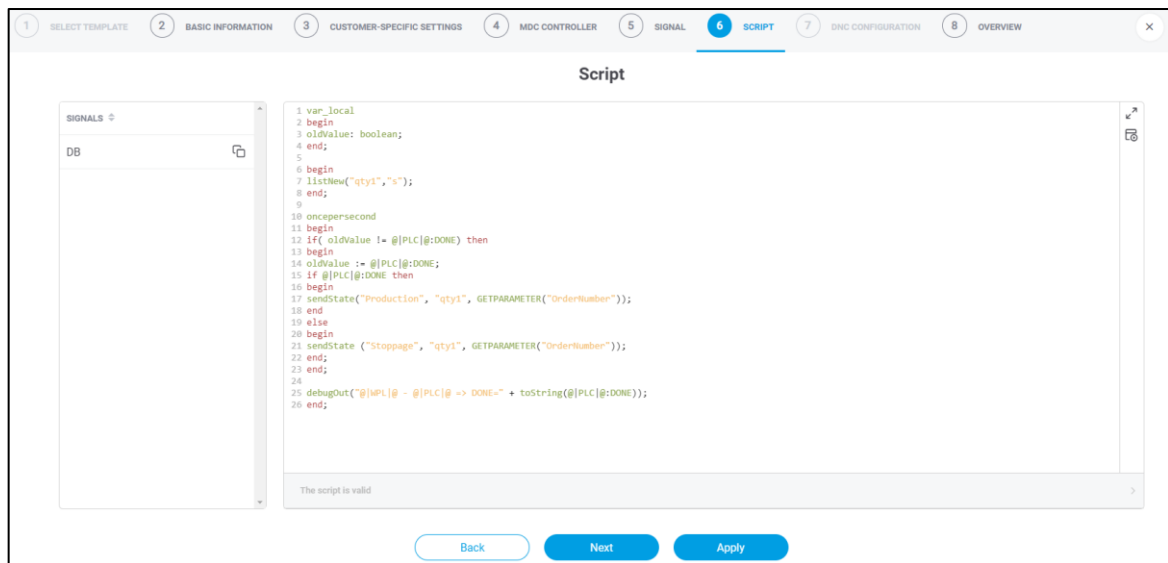

Fig. 23: Add machine - Script
In order to follow the example from the "DONE" signal in step ⑤, the script in Fig. 23 is as follows: If bit 1 for "DONE" comes from the machine, an event **sendStateProduction** is sent, thus eventually corresponding to the status **Production**. If no bit flag is set to 1, **sendStateStoppage** is sent, thus **stoppage**. More script examples are available in section 8.6.